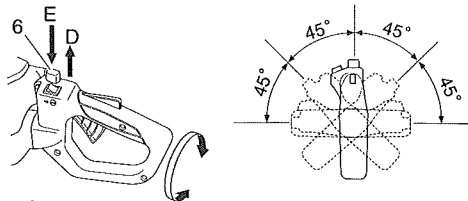

Fig. 7
- Multi-position twist handle (Fig. 7)